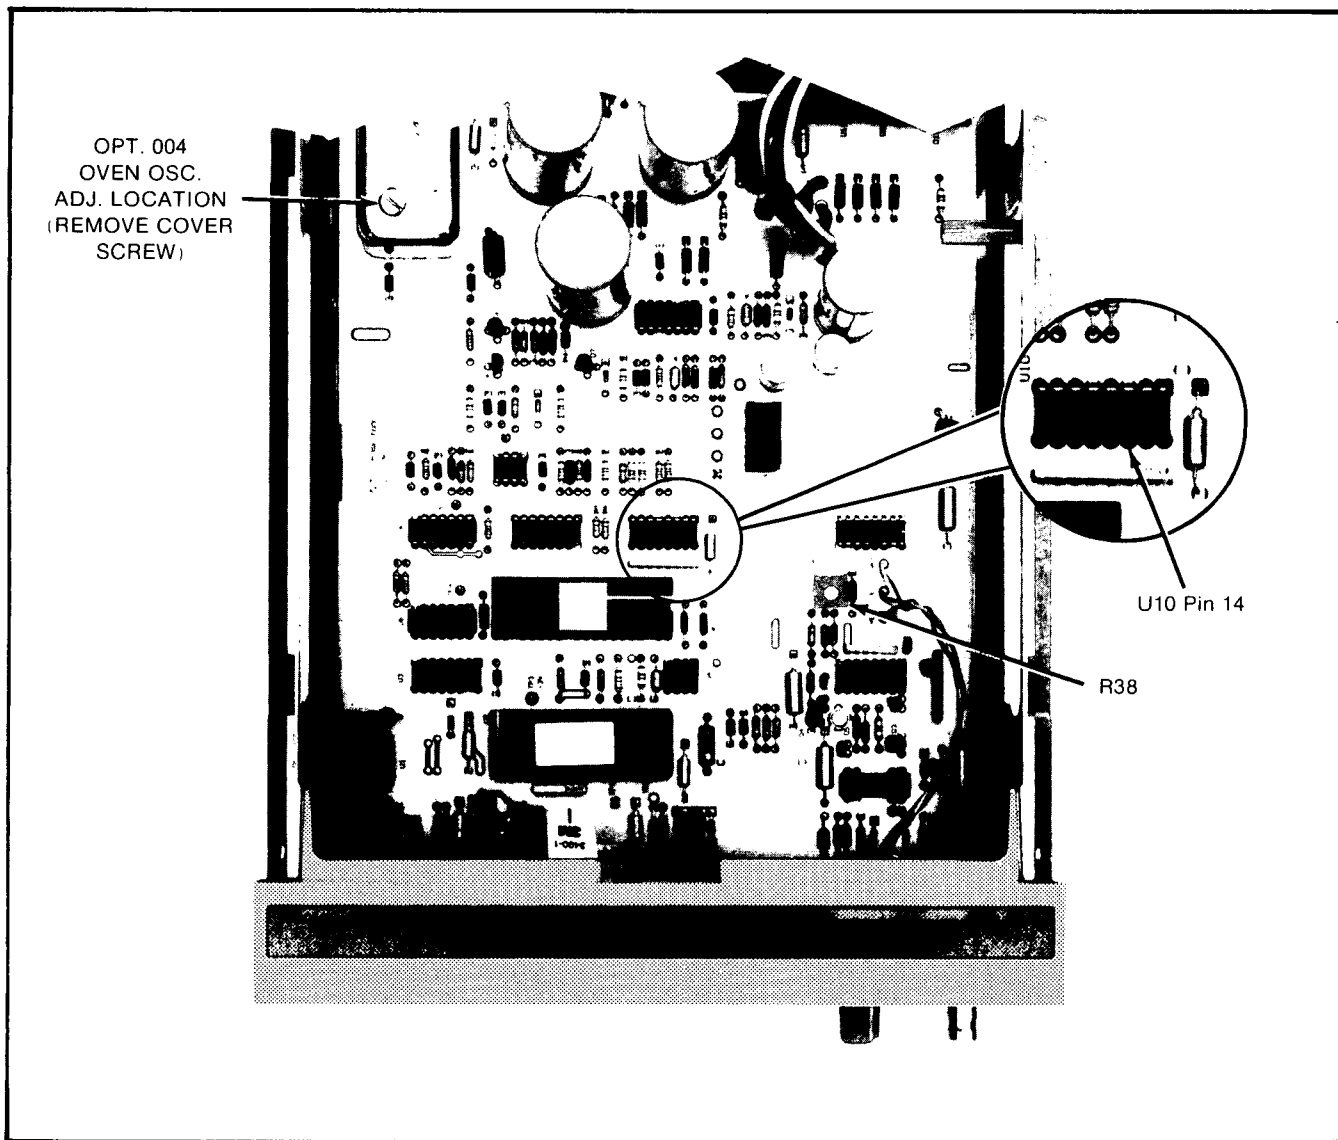

Figure 5-1. Assembly Adjustment Locator
- a. Remove the HP 5386A top and bottom covers; locate variable resistor A1R38 as shown in *Figure 5-1*, Assembly Adjustment Locator.
e. Connect the HP 1740A oscilloscope probe at U10 Pin 14. See *Figure 5-1* for probe connection point.
e. Access the oscillator adjustment screw by removing the screw on top of the oven oscillator. See *Figure 5-1* for adjustment location.